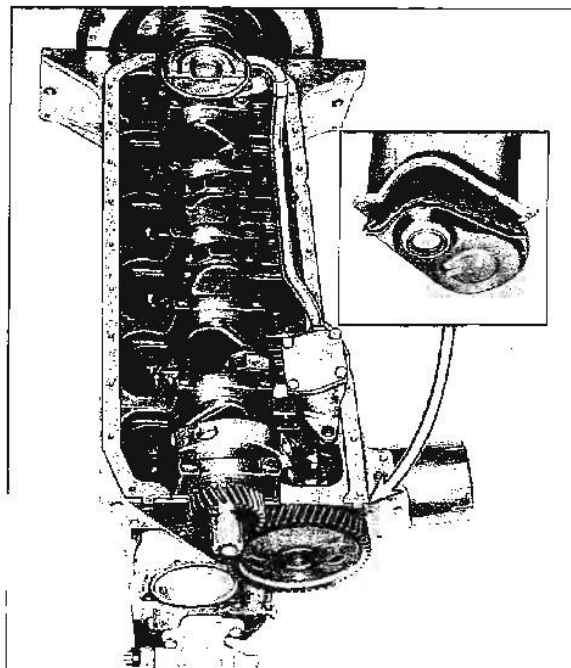

Fig. 6-47 Oil Pan Gaskets
4. Install side gaskets on cylinder block using grease as a retainer. (Side gasket tabs index into notches of front seal -- Fig. 6-47).